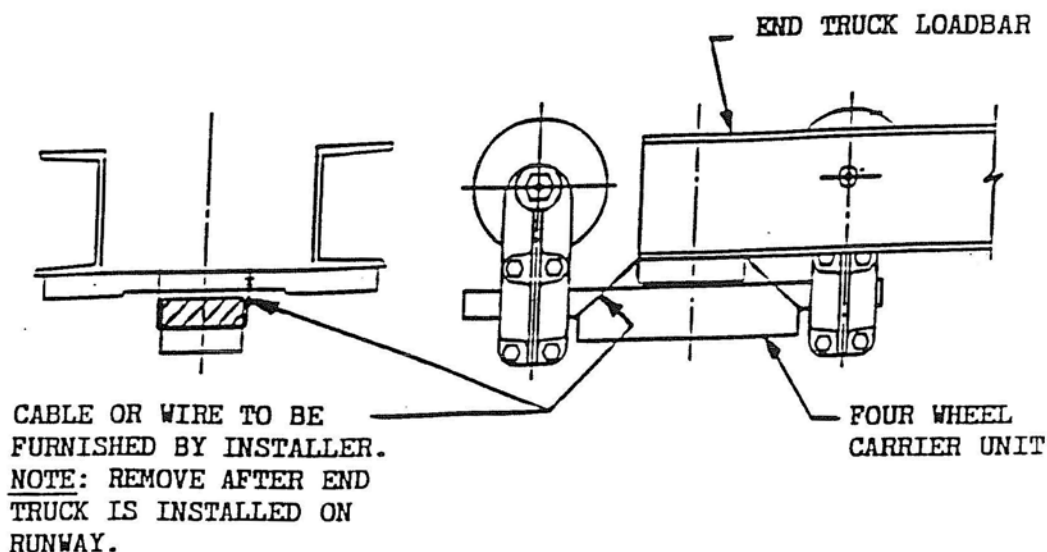

FIG. 1
**EIGHT WHEEL END TRUCKS** are installed similar to the above, except the four wheel carrier units, which are shipped separate. These four wheel units should be secured to end truck loadbar (see Fig 1 below for suggested method) before installed on runway.